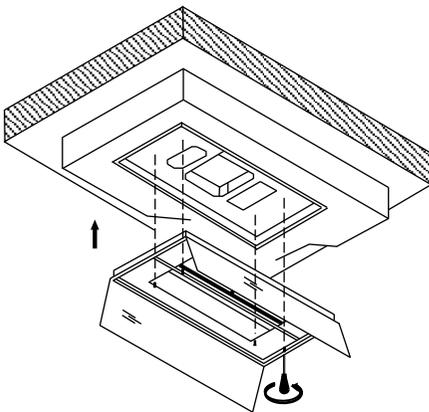

Fig 19
6. Attach the cover back on to the body (Fig 19).